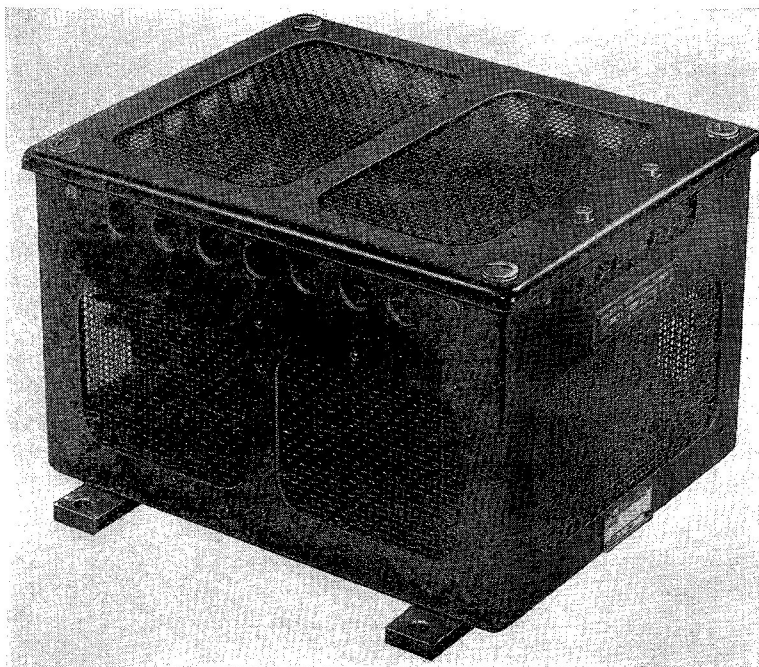

Fig. 1. General view of typical transformer
1. The transformers (*fig. 1*) are designed to operate in aircraft where there is a 3-phase, 400 c/s supply of 200 volts.